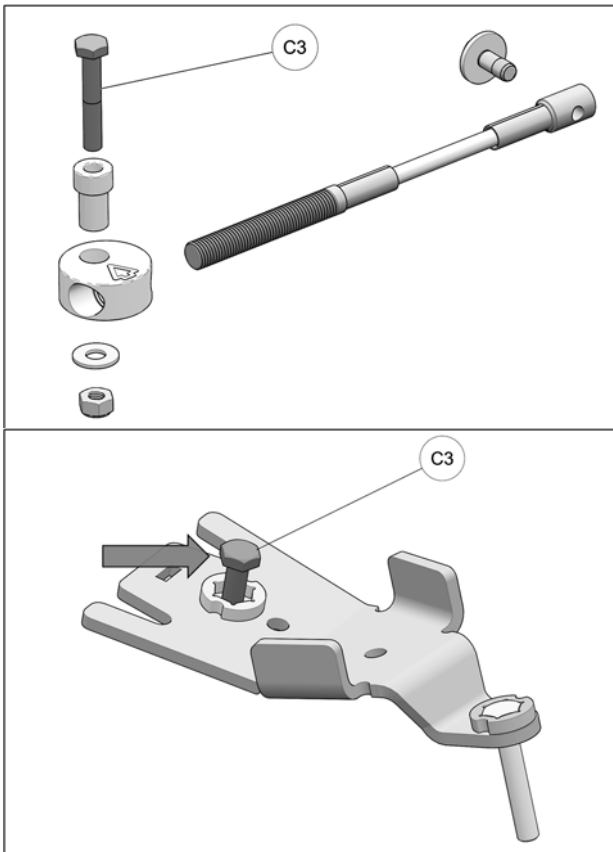

Fig. 14
5. Retrieve the M10x60mm bolt (C3) from the Steering Limiter assembly and insert it in the front anchor bracket as shown in Fig. 14